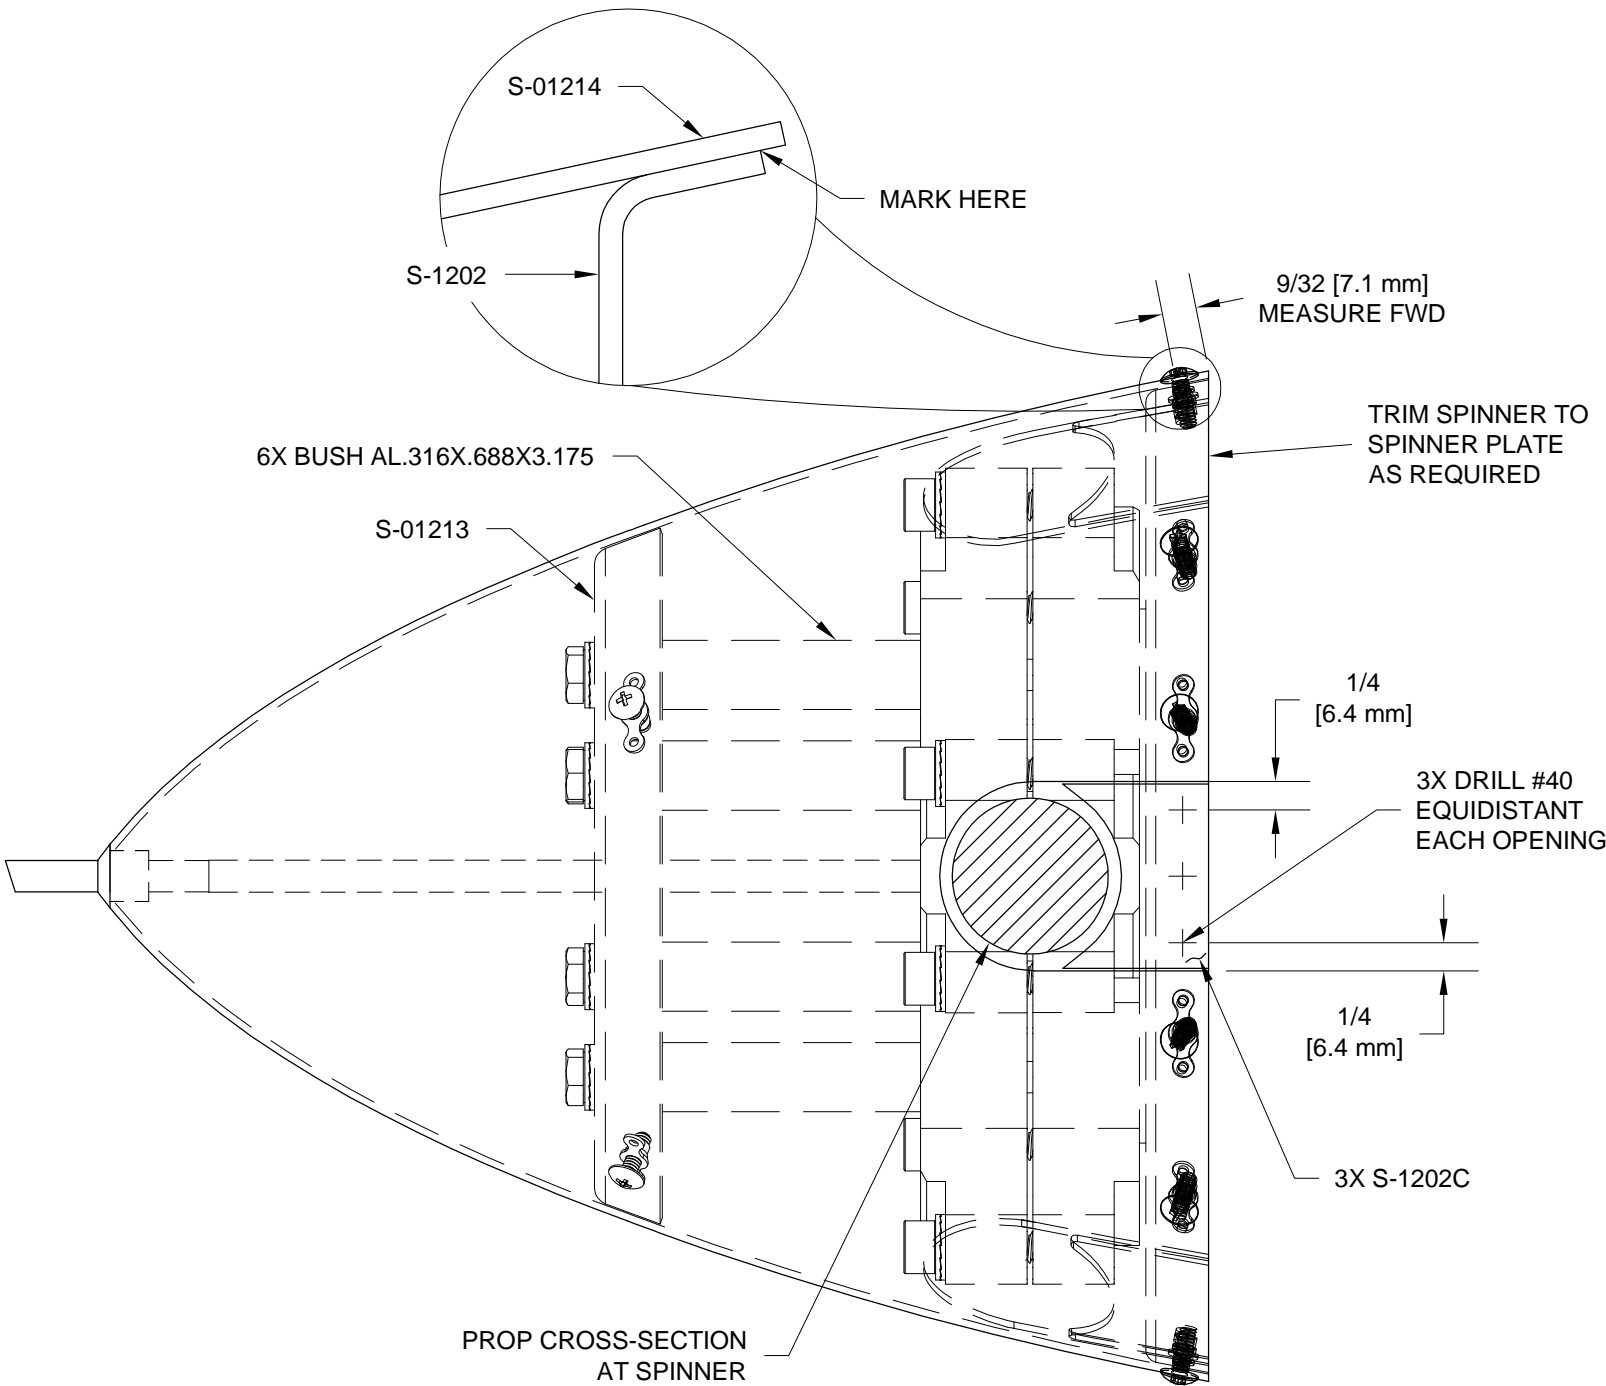

FIGURE 1: SPINNER INSTALLATION
Step 10: Clamp the three S-1202C to the S-1202 and drill #40 three holes for each part. See Figure 1. Cleco each hole as it is drilled. Remove the clecos and all S-1202C.
Step 1: Drill #40 holes in the S-1202 for the rivets used to attach the nutplates called out in Figure 1.